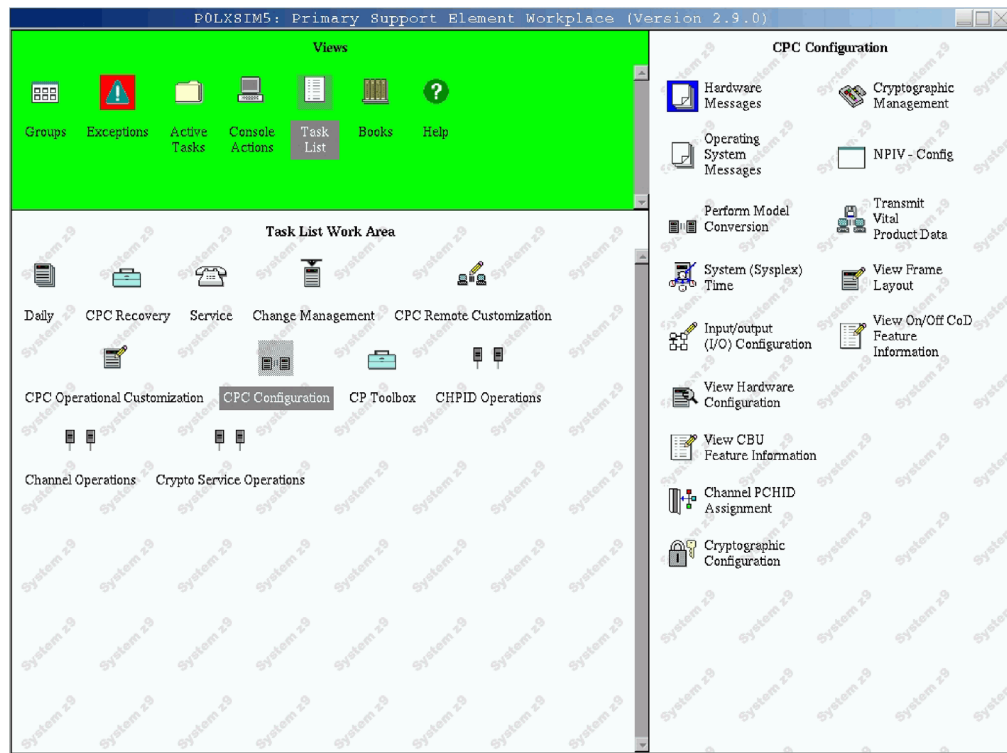

Figure 2-1. Support Element Workplace - Opening CPC Configuration Tasks List
2. Open the **Task List** from the **Views** area (see Figure 2-1).